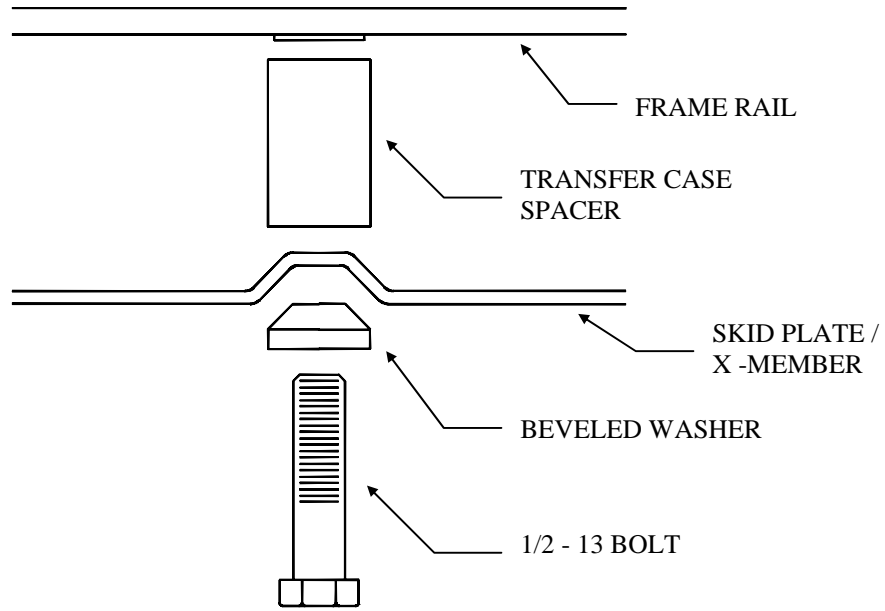

Figure 5.
13. Attach the swivel plate and gasket to the Superlift torque shaft bracket (#55-06-5064) using the supplied factory bolts and nuts (18).
14. Insert the torque shaft through the swivel plate, then attach the "06" bracket to the factory torque shaft bracket as shown using the supplied 6mm x 20mm allen head bolts and nuts (18).
16. Support the pan / cross member and remove the 6 fasteners securing it to the frame. Lower the cross member enough to insert the (6) steel concave spacers between the frame and cross member and secure with (6) 1/2-13X3" bolts, 1/2" lock washers and beveled spacers as shown in **Figure 5**. Torque to 70 ft-lbs.